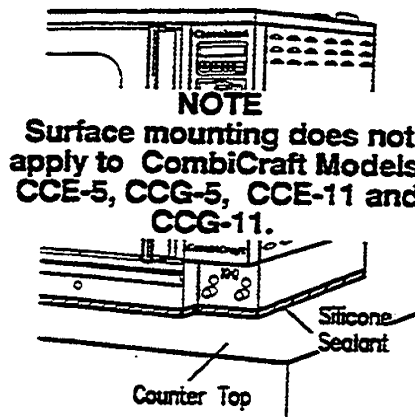

Figure 2-5. Silicone Seal
9. Seal the gap between the CombiCraft and the counter top. Lay a generous bead of silicone sealant under the entire perimeter of the oven/steamer bottom. See Figure 2-5.